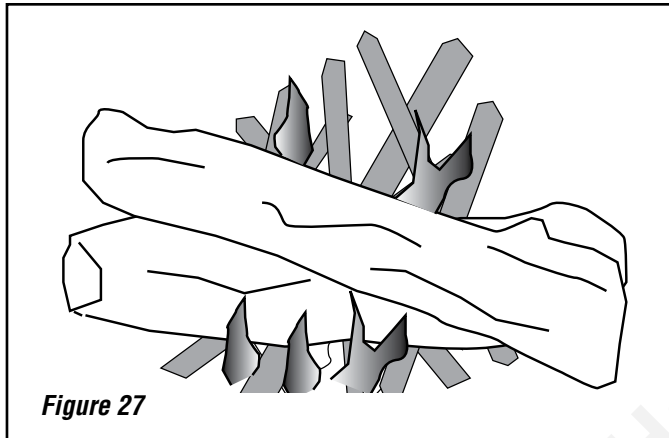

Figure 27
7. For best results, use smaller pieces of wood to get the stove or fireplace insert temperature very high before loading larger wood for sustained burns. If necessary, crack the door to allow ignition of the fuel charge. Do not leave the unit unattended while the front door is slightly open. Now you can add larger pieces of wood and after several minutes of high burn, set the left control for the desired heat output. Check the exhaust in about 15 to 20 minutes (see **Figure 27**). Large amounts of smoke indicate an improper burn setting (either too high or too low). Adjust and recheck in 5 to 10 minutes.